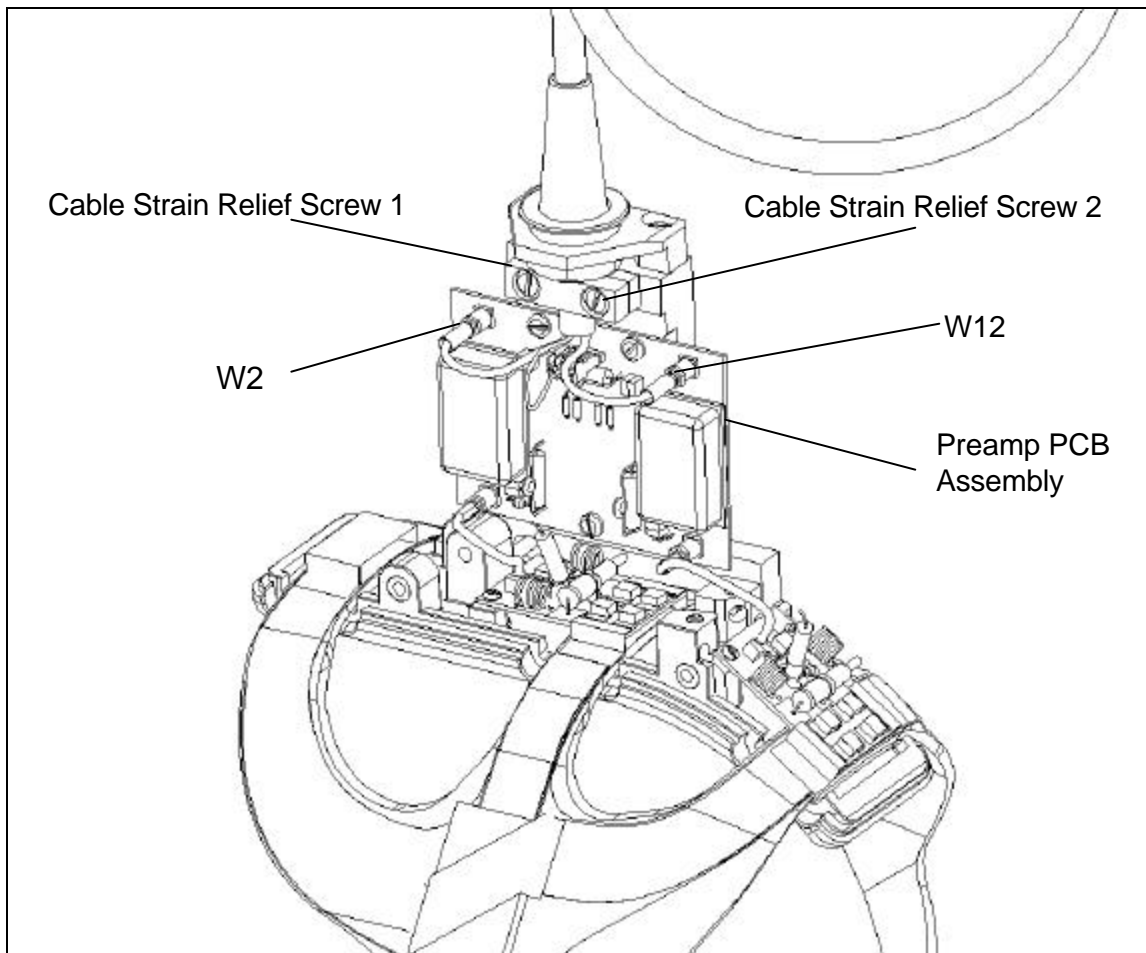

Figure 19: Cable assembly.
Step 2 – Remove the 2 (two) screws near the cable strain relief (refer to *Figure 19*).